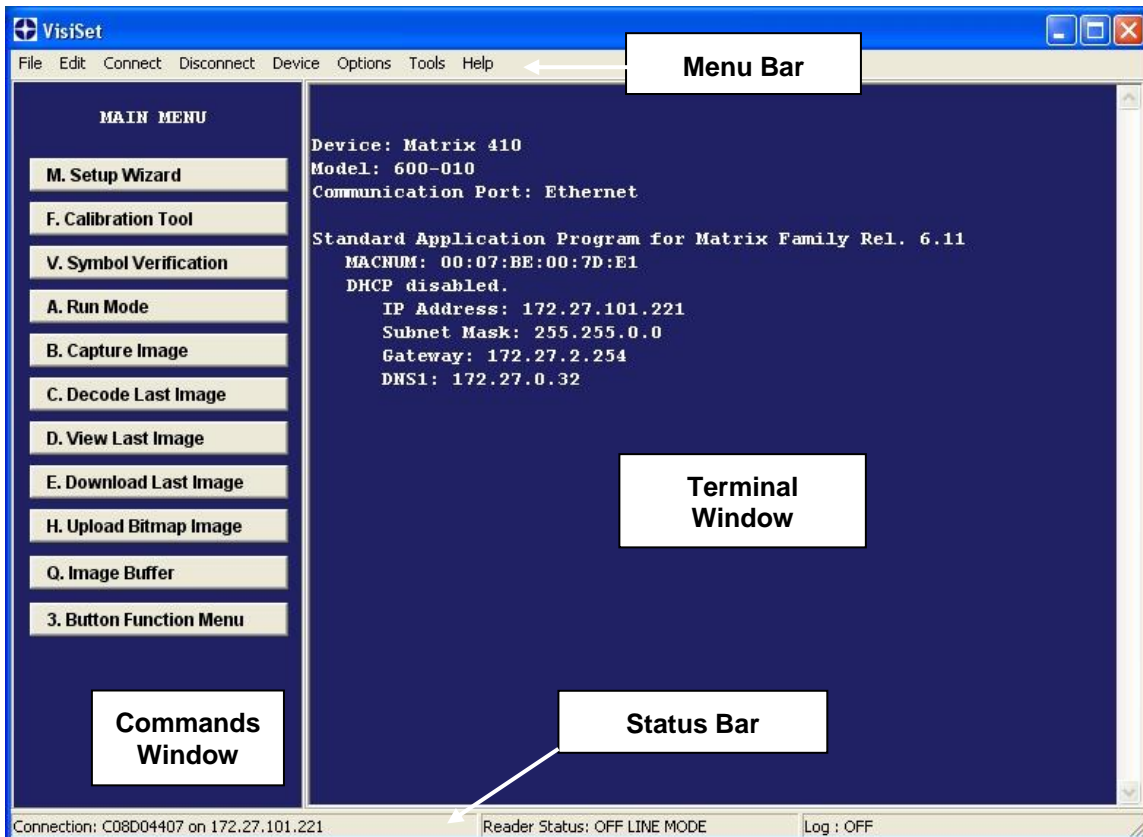

Figure 87 - Main Window
Upon connection, Matrix 410™ exits Run Mode and displays the Main Menu on VisiSet™ with all the commands necessary to monitor your reader's performance. You can select these commands using the mouse or by pressing the key corresponding to the letter shown on the button. See Figure 87.
The **Options** item from the VisiSet™ menu (see Figure 87) presents a window allowing you to configure:
6. Close the Parameter Setup window and press **Disconnect** on the VisiSet™ menu bar (see Figure 87) or launch **Run Mode** from the VisiSet™ Main menu.